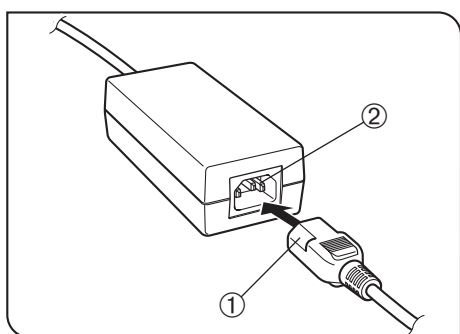

Fig. 53
12 Attaching the Power Cord (Figs. 53 to 55)
Operation Using the AC Adapter (Fig. 53)
1. Insert the connector ① of the power cord firmly into the input connector ② of the AC adapter (Fig. 53).